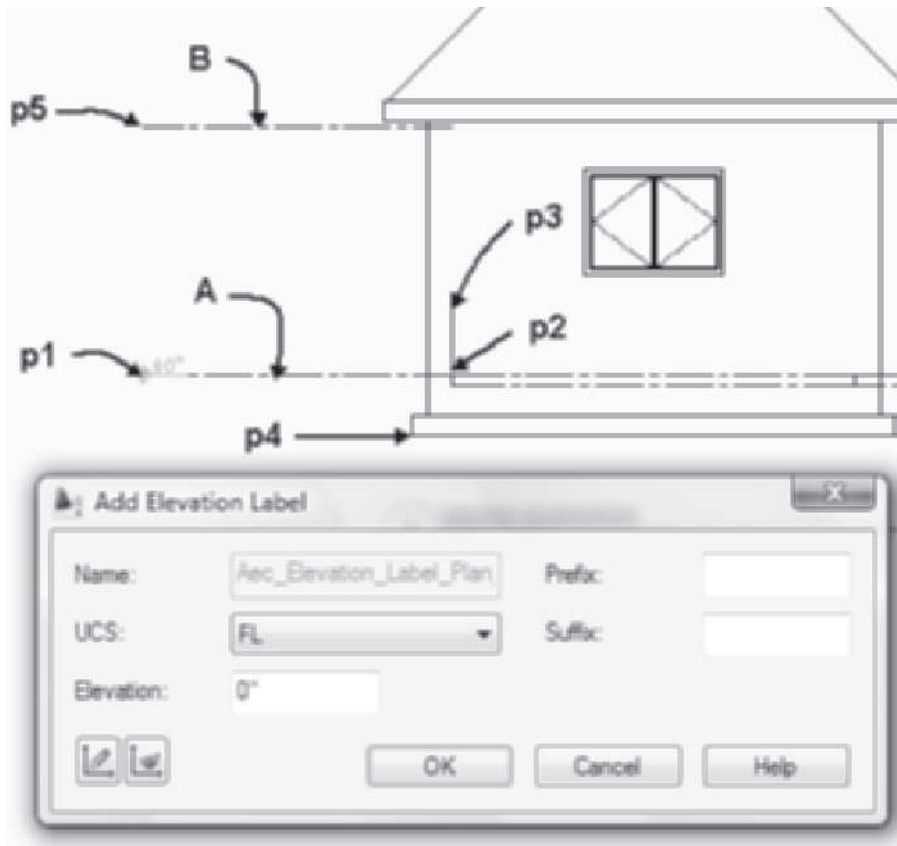

FIGURE 12.73 Adding lines to an elevation
19. Select **Line** from the **Draw** panel in the Home tab and respond to the following workspace prompts to draw a line as shown in Figure 12.73:
Specify first point: (Hold SHIFT down, right-click, and choose Endpoint. Select the end of the top of the slab at p2 as shown in Figure 12.73.)
20. Select the line at **A** as shown in Figure 12.73 to display the grips. Select the grip at the midpoint of the line, right-click, and choose **Copy**. Move the cursor up to display a polar angle of 90 and type 8' [2400] in the workspace. Press ESC twice to end the selection and the grip edit.
Select objects to merge: (Select line at A as shown in Figure 12.73.)
Select objects to merge: (Select line at B as shown in Figure 12.73.)
Specify insertion point: (SHIFT + right-click, choose **Endpoint** object snap, and then select the line at p1 as shown in Figure 12.73.)
Specify base point: *Select the slab at p2, as shown in Figure 12.73.)*
Specify z-direction: *(Select a point near p3 as shown in Figure 12.73.)*
Specify insertion point: *(SHIFT + right-click, choose Endpoint object snap, and then select the end of Footing at p4 as shown in Figure 12.73.)*
Specify insertion point: *(SHIFT + right-click, choose Endpoint object snap, and then select the end of floor line at p5 as shown in Figure 12.73.)*